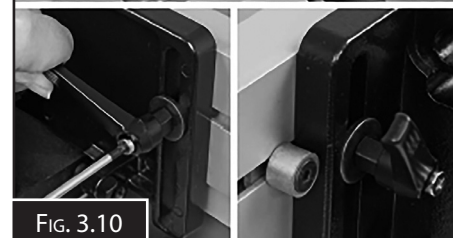

FIG. 3.10
4. Insert the thread of one of the lift and shift handles through the elongated slot and screw it into the fence mounting plate. (Fig.3.10)
NOTE: As space is limited to the rear of the tilt assembly housing it may be easier to remove the handle from the threaded bolt, to make it easier to screw in. (Fig.3.10)